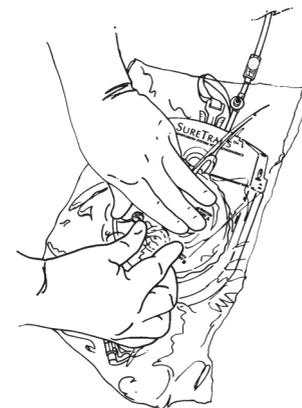
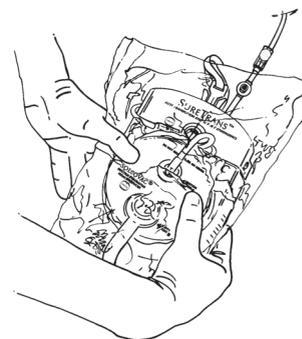

Figure 3, Attaching the tethered one-way valve.
Figure 4, Compressing the SOLCOVAC™ suction evacuator.
- If suction is desired, compress the SOLCOVAC™ suction evacuator attached to the collection container to create negative pressure in the container. While holding the SOLCOVAC™ unit in the compressed state, attach the tethered one-way valve by pushing it onto the open port (B) of the SOLCOVAC™ evacuator (Figure 3). It may be necessary to recompress the evacuator (until it remains compressed) to charge the unit (Figure 4). Alternatively, wall suction may be used by simply attaching suction tubing to the wall suction port on top of the unit. The vacuum will be limited to -90 mmHg automatically by the SURETRANS™ system.
If suction drainage is desired, attach the tethered one-way valve by pushing it onto the open port (B) on the SOLCOVAC™ suction evacuator (Figure 3). Compress the SOLCOVAC™ suction evacuator attached to the collection container to create negative pressure in the container. Be sure not to obstruct the one-way valve when compressing the reservoir. Alternatively, wall suction may be used. It is automatically regulated to prevent suction from exceeding -90 mmHg.